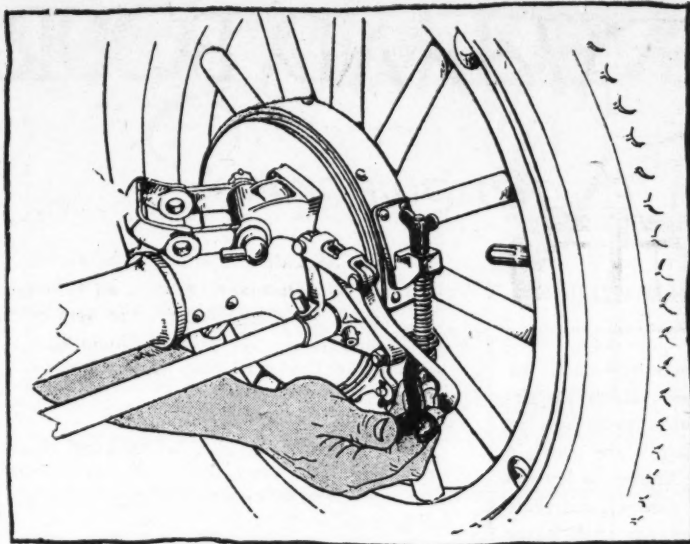
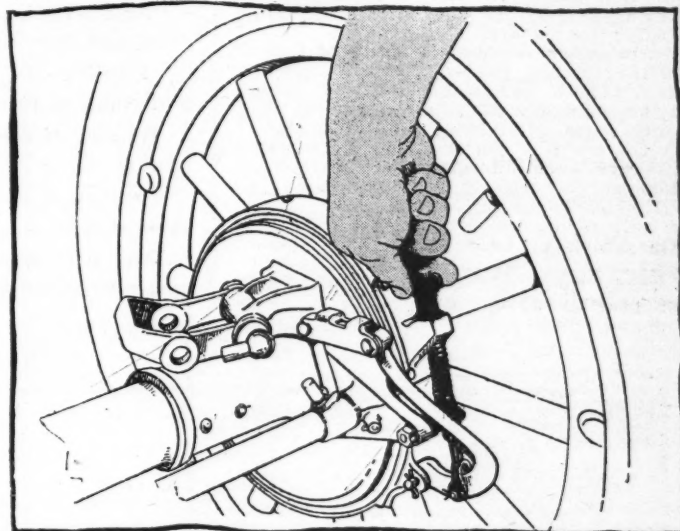

Fig. 28. Loosen adjusting nut preparatory to equalizing outer brakes
Fig. 29. Adjusting outer brake
6. The brakes should be so adjusted that both brakes take hold simultaneously. To insure brake band clamping brake drum evenly, loosen adjusting nut on brake adjusting rod directly under rod guide, as in Fig. 28, and tighten down on wing nut, as in Fig. 29.